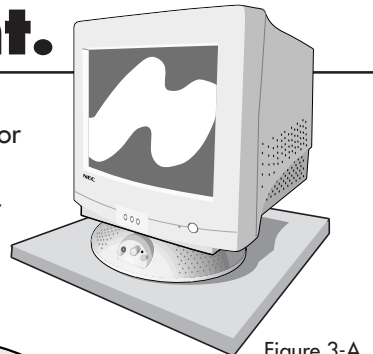

Figure 3-A
**STEP 3-A.** Having successfully installed your audio base, carefully turn the monitor right side up (**Figure 3-A**).